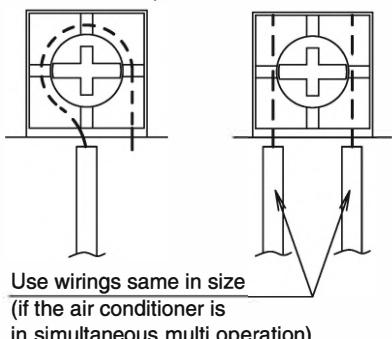

Fig. 19
- Connect the terminal as shown in Fig. 19.